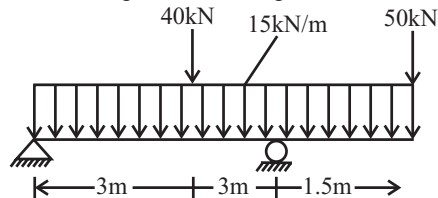

Fig. 4
- (a) Draw the shear force and bending moment diagram for the beam shown in Fig 4.
- (b) (i) If cross-sectional area of the beam shown in Fig. 4 is as shown in Fig. 6, find the maximum bending stress.